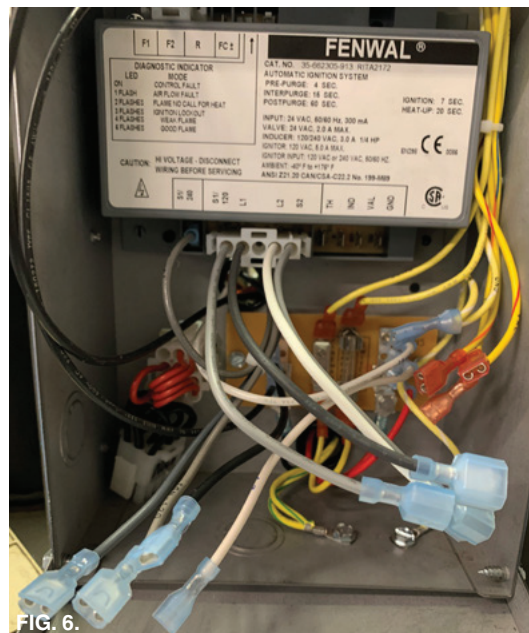

FIG. 6.
6. Connect the connector (P/N 467207) to the lower left side of the ICM (see Fig. 6).